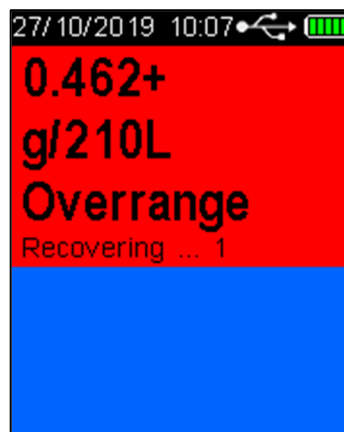

Figure 13b – Overrange Results
- Overrange result is if a result above 0.462g/210L is obtained the below screen will appear (Figure 13b)